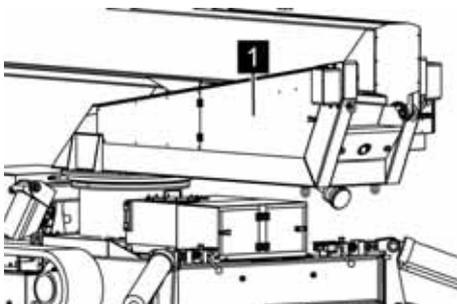

Fig. 97: Door on the lift arm holder
2. ➤ Open the door (Fig. 97/1) on the lift arm holder.